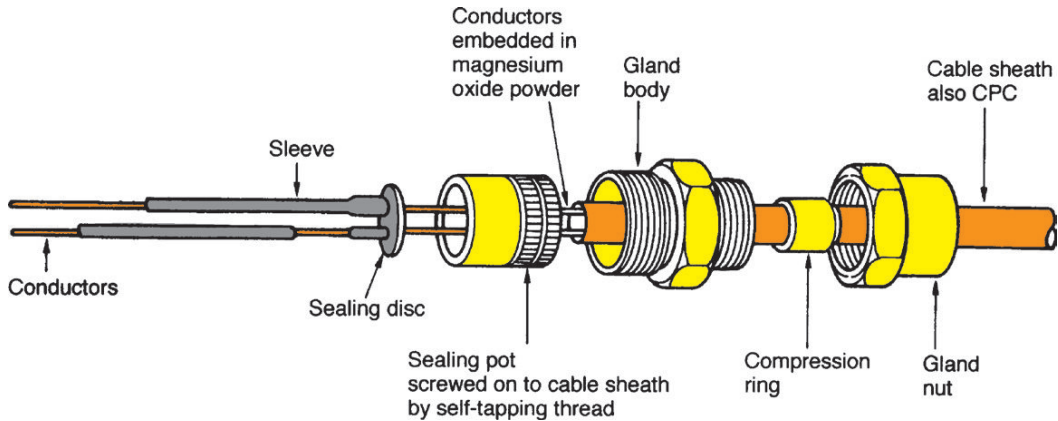

Figure 4.14 MI cable with terminating gland and seal.
Mineral insulated (MI) cables are waterproof, heatproof and corrosion resistant with some mechanical protection. These qualities often make it the only cable choice for hazardous or high temperature installations such as oil refineries, chemical works, boiler houses and petrol pump installations. An MI cable with terminating gland and seal is shown in Fig. 4.14.
Mineral insulated cables are available with bare sheaths or with a PVC oversheath. The cable sheath provides sufficient mechanical protection for all but the most severe situations, where it may be necessary to fit a steel sheath or conduit over the cable to give extra protection, particularly near floor level in some industrial situations. (Figure 4.14 shows an MI cable termination.)